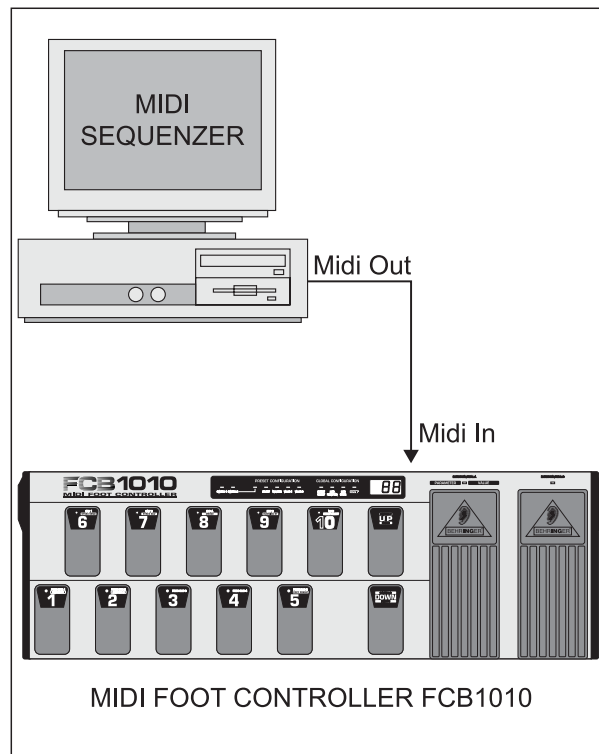

Fig. 2.6: Receiving a SysEx dump
- ▲ Connect the MIDI OUT connector of your sequencer or computer to the MIDI IN connector of the FCB1010 (see fig. 2.6).